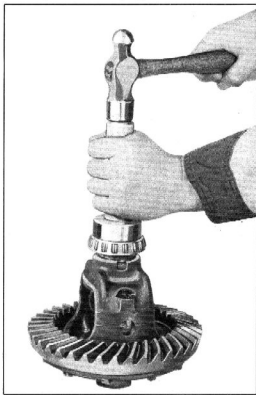

Fig. 8—Replacing Differential Bearings
3. To replace the differential side bearings, place them on the hubs with the thick side of the inner race towards the case and drive them in place with J-994 differential side bearing replacer, Fig. 8.